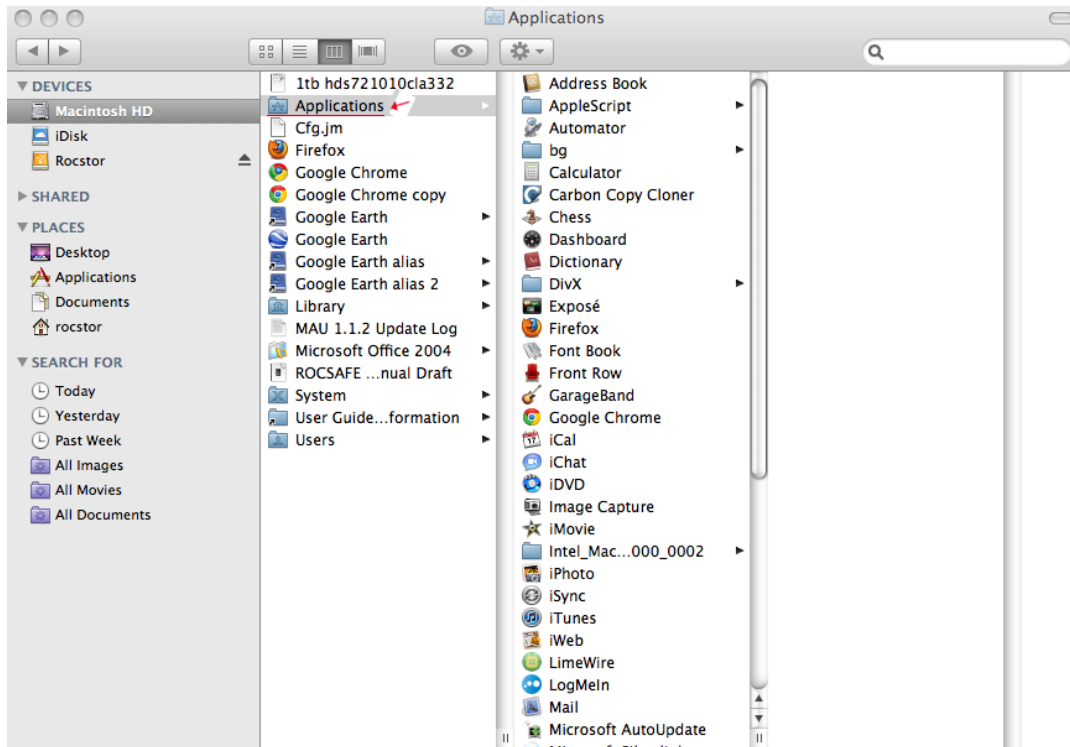

Figure 2.0
3. Once the icon appears on the **“Desktop”** click on the **“Macintosh HD”** icon (figure 2.0)